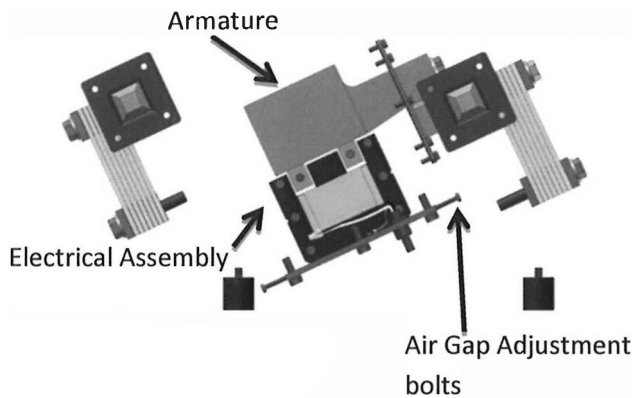

Figure 10: Side View With Feeder Body Removed
8. Insert the gap gauge into the air gap seen in Figure 7 & 8. The gap gauge should be able to move freely between both gaps. Use air gap adjustment bolts (Figure 10) to move the electrical assembly forward & backward until both gaps allow gauge to move freely.